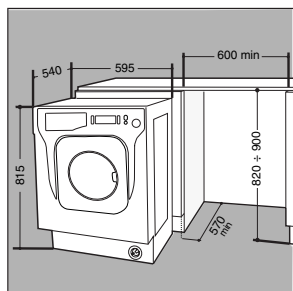

Fig. 6
- Push the machine into the opening, aligning it with the cabinets (*fig. 6*).